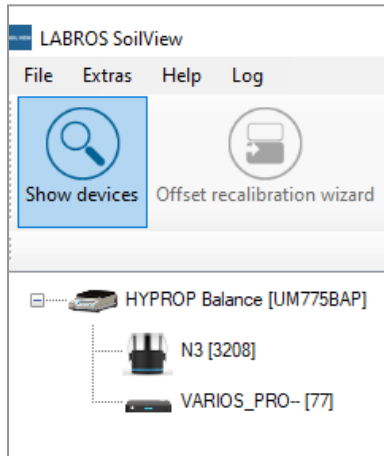

Figure 21 Connected devices
11. LABROS SoilView software automatically displays all connected balances and sensor units on the left side of the software screen (Figure 21).